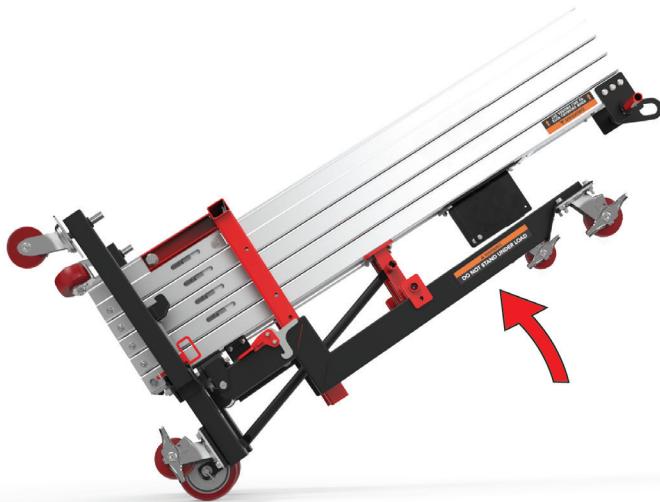

Figure 6-5: Lifting Material Lift to Vertical Position
1. Position yourself at the end of the mast assembly. Bending at the knees, reach down and grasp the upper handle. Lifting with your legs and pivoting the lift on the rear transport wheels, raise the material lift to the vertical position (see Figure 6-5). Do not release the material lift until all four wheels are on the floor.